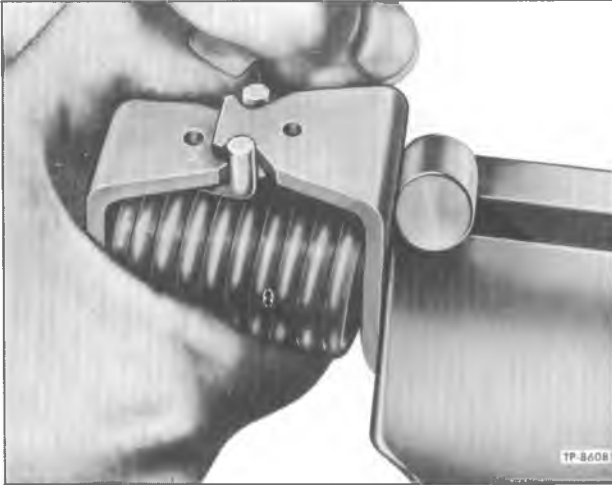
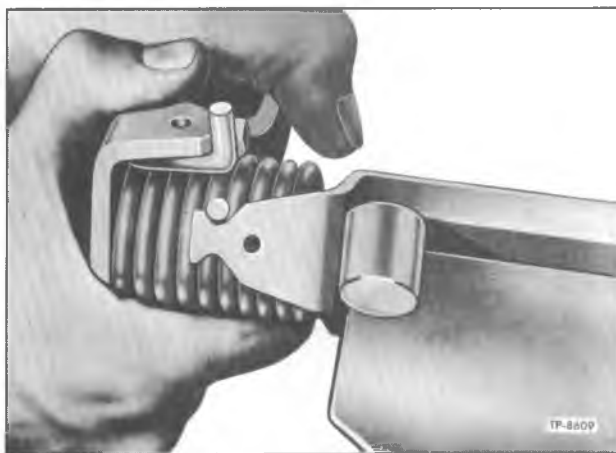

Figure 16—Disassembling Torsion Spring From Lever
Figure 19—Assembling Torsion Spring and Levers (Eaton)
9. Remove three screws and lock washers (1) which attach motor cover (4) to housing. Pull out motor (6) with cover (4) attached to motor with two cover nuts (2). Remove grommet (7).
10. Remove two jam nuts (9) and fiber washers (10) from outside of housing. On inside remove switch center screw (18). Pull out automatic switch (17).
11. Do not disassemble the shift fork actuating lever (22), torsion spring (23), and spring winding lever (24) unless necessary to replace one of the parts. If necessary to disassemble, mount assembly in vise as shown in figure 16. Turn spring winding lever (24) clockwise and pull to separate.
6. Install gasket (14) and cover (15) with three screws and lock washers (16). Tighten screws firmly.
7. If the assembly consisting of shift fork actuating lever (22), torsion spring (23), and spring winding lever (24) has been separated, reassemble. With shift fork actuating lever (22) in vise, assemble parts as shown in figure 19. Turn the spring winding lever (24) with one end of spring, in clockwise direction until end of spring is past shift fork actuating lever; then push in on assembly until positioned as shown in figure 16.
8. Dip above assembly in lubricant. With drive nut on drive screw assembly in center of screw, and fiber contact bumper down toward switch, position the slots of winding lever over the drive nut. Install the shaft (21) through center of the assembly into depression in housing.
9. Install new gasket (25) on housing. Install cover (26) with spring detent against drive nut. Retain cover with screws and lock washers (28).
10. Remove oil plug (27). With unit standing with motor up, lubricate in accordance with instructions given in LUBRICATION (SEC. 0). Reinstall plug and tighten firmly.